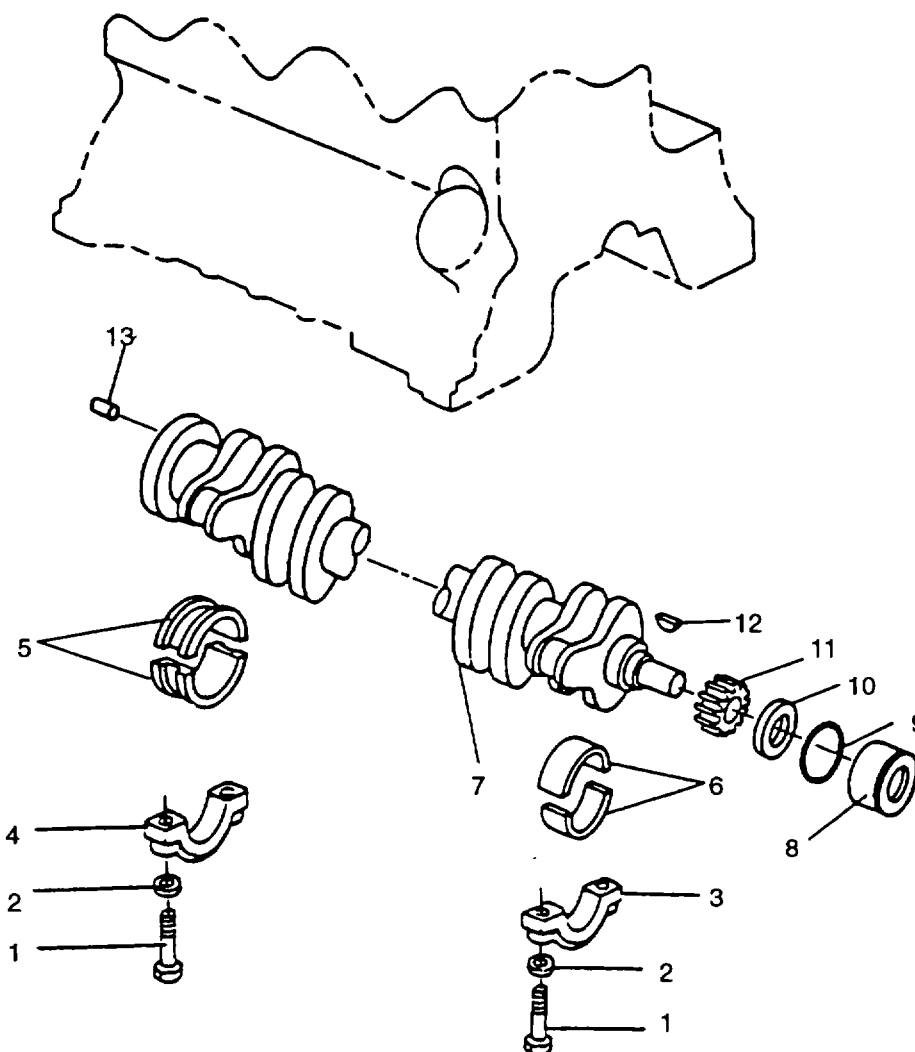

FIGURE 3-137. Crankshaft and Main Bearings
- h. Check main bearing caps (3 and 4, FIGURE 3-137) for arrows (cast in bearing cap) and numbers stamped on cap and oil pan rail. Arrow points toward camshaft side of engine. If there are no numbers, stamp corresponding numbers on cap and oil pan rail. This will assure correct placement location of main bearing caps during reassembly.
- i. Remove capscrews (1) and washers (2) securing main bearing caps (3 and 4); remove main bearing caps.
- a. Install gear (11, FIGURE 3-137) on crankshaft as follows: